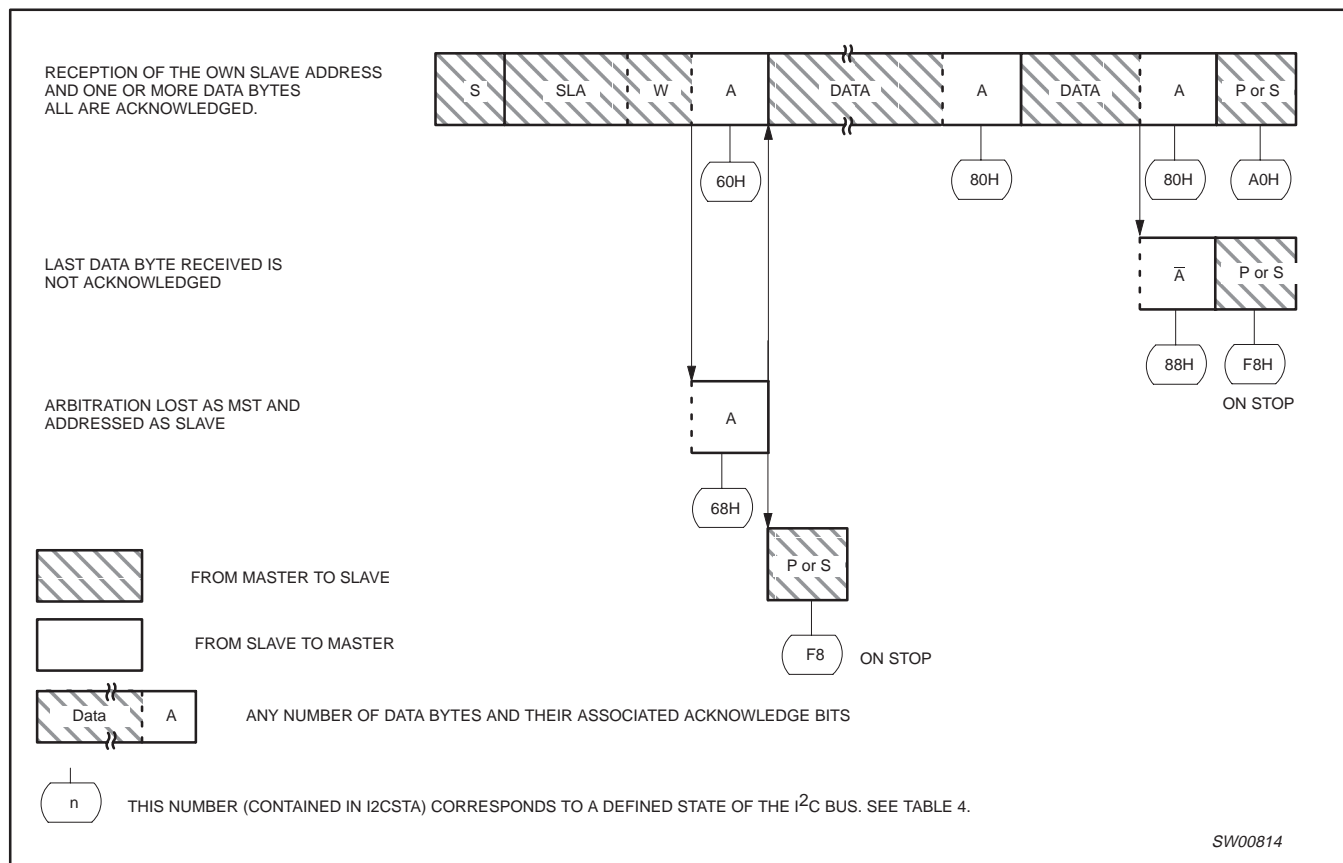

Figure 4. Format and states in the slave receiver mode
**Slave Receiver Mode:** In the slave receiver mode, a number of data bytes are received from a master transmitter (see Figure 4). To initiate the slave receiver mode, I2CADR and I2CCON must be loaded as follows: